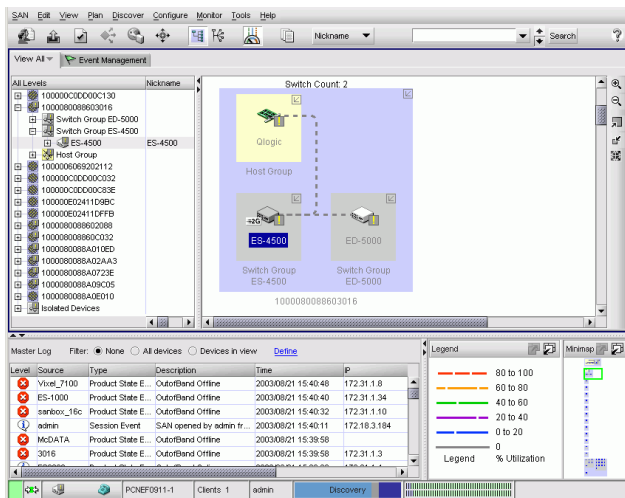

Figure 2-32 Main Window: Example (EFCM or SANavigator)
- Click *Login*. The application opens and the EFCM or SANavigator main window appears (Figure 2-32).